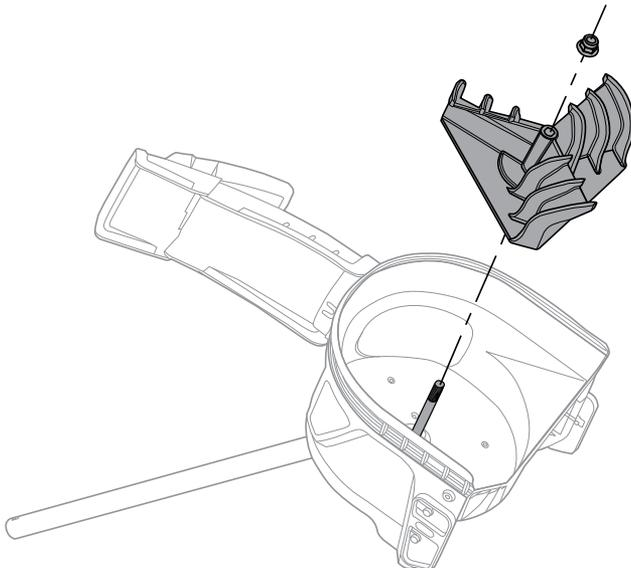

Fig. 9
2. Remove the jam nut which locks the impeller to impeller shaft. (Fig. 9)
3. Remove the impeller and replace with a new one. (Fig. 9)